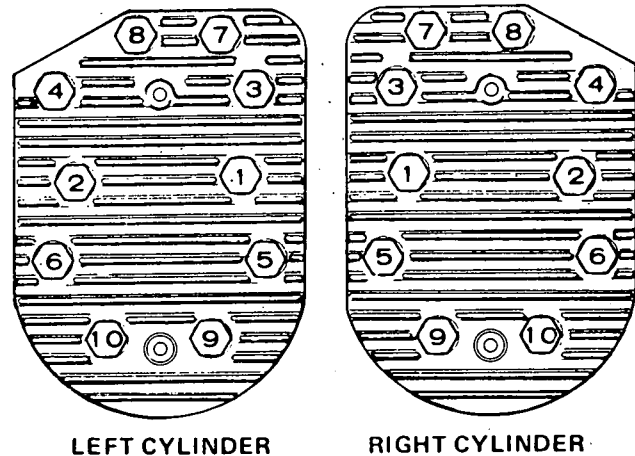

FIGURE 65. HEAD BOLT TIGHTENING SEQUENCE
4. Place heads in position and follow head torque tightening sequence shown in Figure 65. Start out tightening all bolts to 5 ft-lb, then 10 ft-lb, etc., until all bolts are torqued to 17-19 ft-lb.